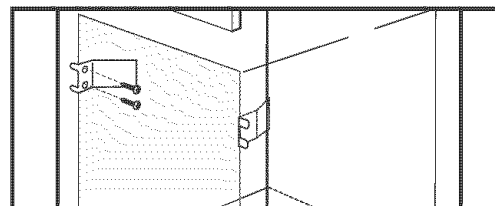

Figure 4
2. Install the mounting bracket in the wall cabinet as shown in Figure 4. **Note:** To prevent damage to cabinet, it is recommended to drill 1/16" (0.16 cm) dia. pilot holes before installing the mounting brackets.